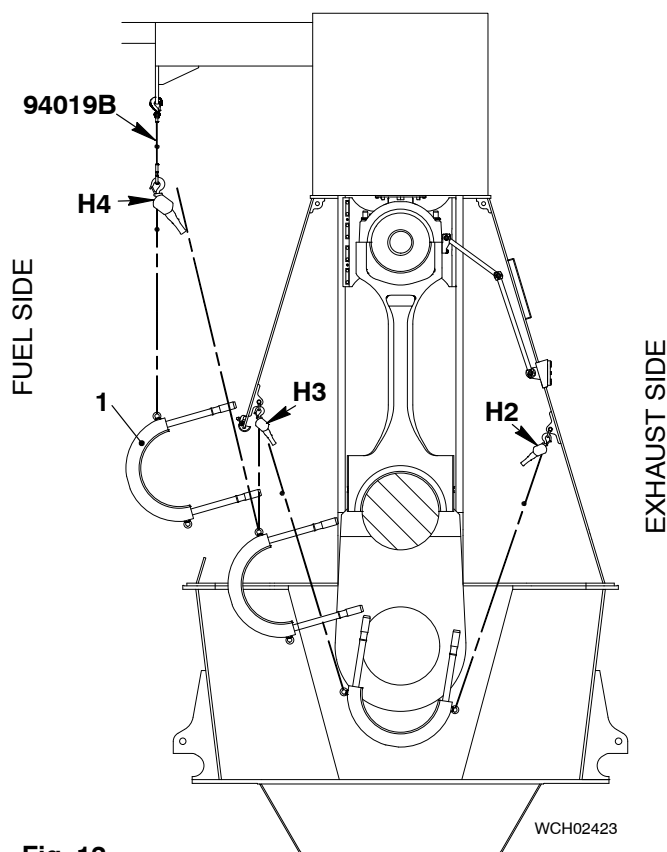

Fig. 12
- 1) Attach the chain (94019B, Fig. 12) to the gallery.
- 2) Attach the manual ratchets (H4) to the chain (94019B) and the eye bolt on the bearing cover (1).
- 3) Attach the manual ratchet (H3) to the eye bolt on the bearing cover (1).
- 4) Operate the manual ratchets (H3, H4) to move the bearing cover (1) into the crankcase.
- 5) Attach the manual ratchet (H2) to the column and the bearing cover (1).
- 7) Operate the manual ratchets (H2, H3) to lift the bearing cover (1) into position.